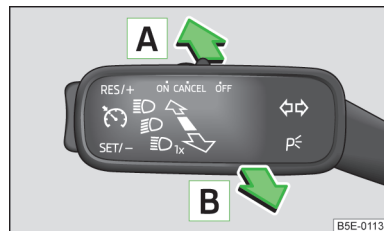

Fig. 31
- Place the lever in position A (spring-tensioned position) » Fig. 31.
- If the headlight is currently switched on automatically, move the lever into position B (spring-tensioned position) » Fig. 31.